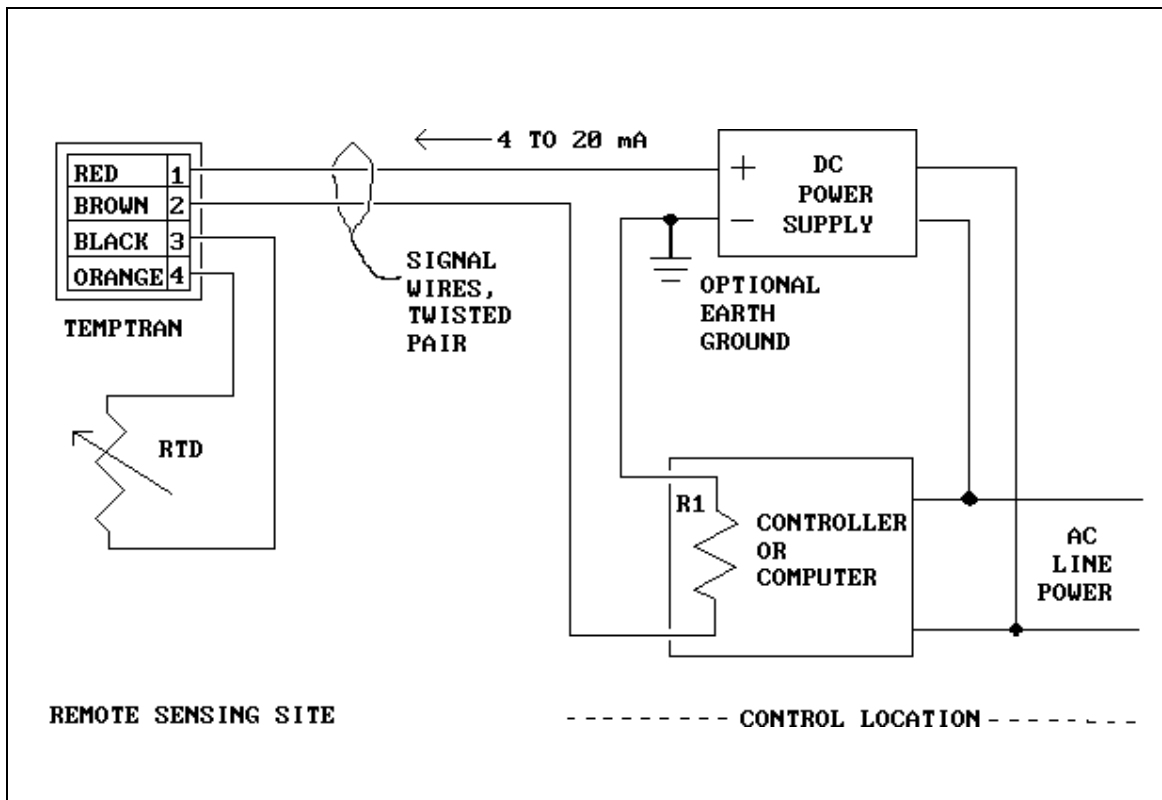

Figure 1 Typical hookup of a single current loop
14. Ground loop currents are adding or subtracting from current loop because circuit is earth-grounded at some point.	Ohm from each current loop to earth ground or other suspect wiring to check for accidental shorting along the wire run. None of the Temptran's connection points should be grounded. However, some control systems may intentionally connect the positive or negative side of the current loop to earth ground as shown in Fig. 1.